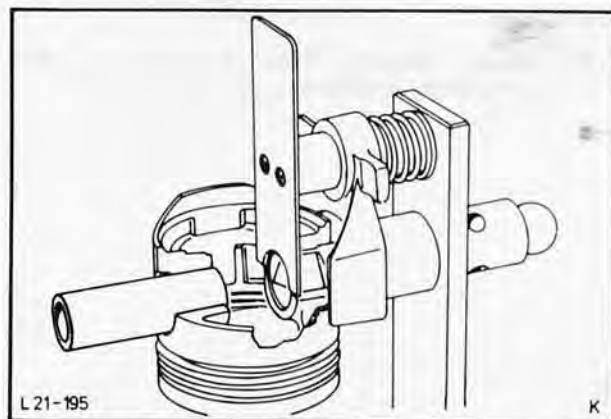

Fig. 224. Fit piston pin
6. Slide piston pin up to inside edge of other piston bore. Fig. 224.